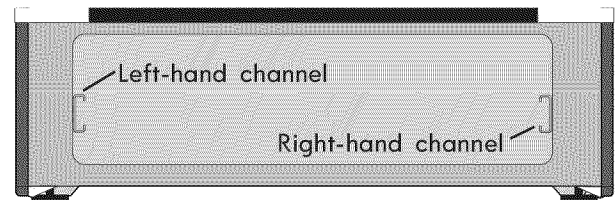

Figure 44: Channel alignment
2. Carefully line up both sides of the warmer drawer glide rails to the outer compartment glide channels located inside the empty warmer drawer compartment (See Figure 44).